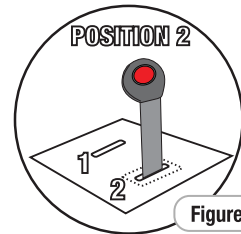

Figure 3
- Step 3:** Buckle should now be in POSITION 2 (refer Figure 3).